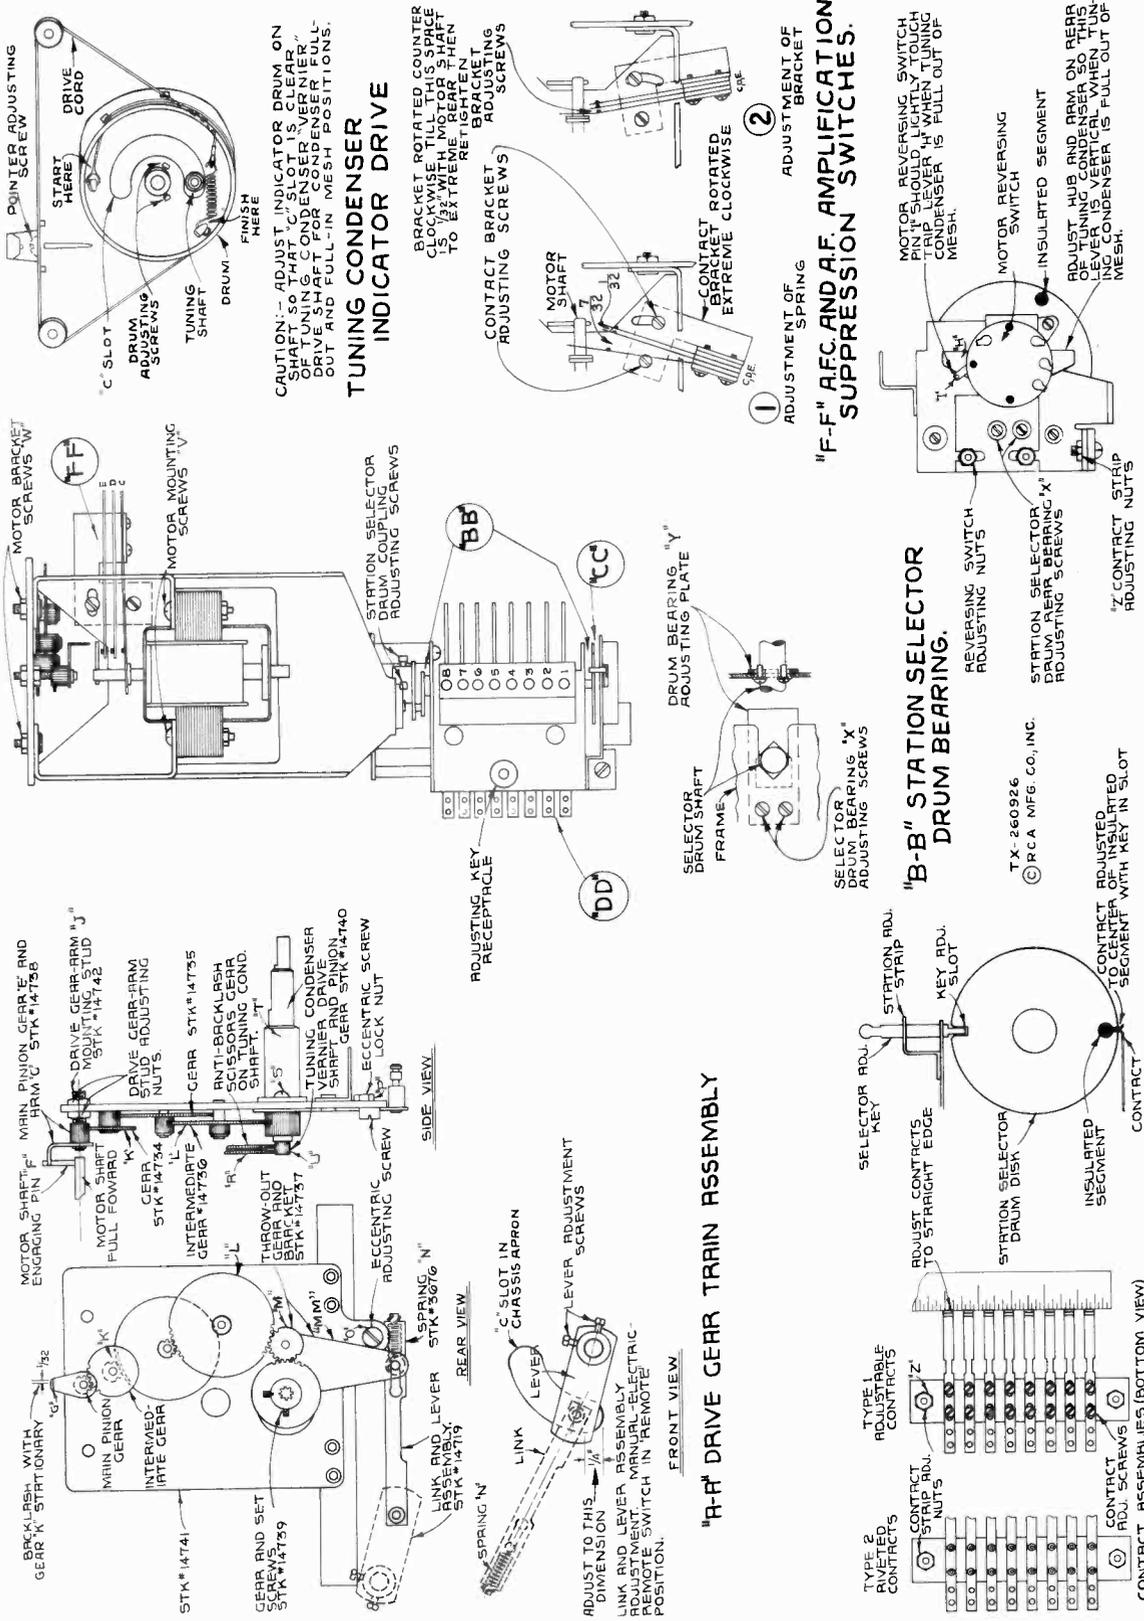

Figure 5—"Electric Tuning" Mechanism Adjustments
The electric tuning mechanism is designed to be as simple in construction and as fool proof in operation as is possible. In order to maintain the accurate results possible with this device care must be taken in effecting any repairs or adjustments. Reference should be made to figure 5 and the following:
**"Manual-Electric-Remote" Changeover.**—(1) Link and lever adjustment—To properly line up the mechanical link between the switch shaft and throw-out gear bracket "MM," the set screws holding the link lever on the switch shaft must be loosened, the switch turned to the "Remote" position (extreme left) and the link lever revolved until the distance between the bottom of its link-connecting pin (extends through chassis apron) and the bottom of the "C" slot, in front apron of chassis, is exactly 1/4 of an inch. If this adjustment is not properly made, correct operation of "Electric" or "Remote" tuning will not result. (2) Throw-out Gear Adjustment—To obtain smooth operation on "Electric" or "Remote" positions it is important that the proper clearance is maintained between the throw-out gear "M" and the intermediate gear "L." With the "Manual-Electric-Remote" control thrown to "Remote" position (extreme left) adjust the mesh between these gears by means of the eccentric screw "O" and lock nut "P" on the throw-out gear bracket "MM" until there is approximately 1/64 of an inch backlash of gear "L" when gear "M" is held stationary.
**Station Selector Drum.**—(1) Bearing Adjustment—The selector drum may be removed by unscrewing the two bearing adjusting screws "X" on the front and rear bearings and sliding shaft out of slots on frame. To replace drum, the reverse procedure should be followed holding bearing adjusting plates "Y" firmly against the shaft and tightening adjusting screws. (2) Contact adjustment—Two types of contact strips are used. They are designated on figure 5, as types 1 and 2, on which the individual contacts are respectively adjustable and fixed. On type 1, the individual contacts should be adjusted by setting the end contact springs near the mid-position of their travel and aligning the remaining springs to them by means of a straight edge. Either type of